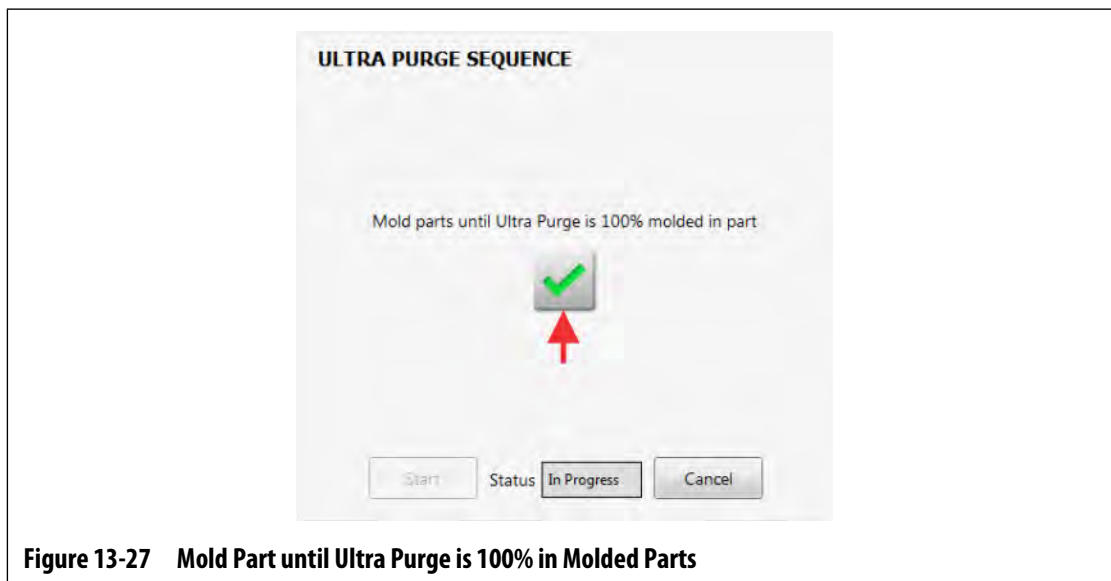

Figure 13-27 Mold Part until Ultra Purge is 100% in Molded Parts
13. Touch the green check mark to continue (Figure 13-27).